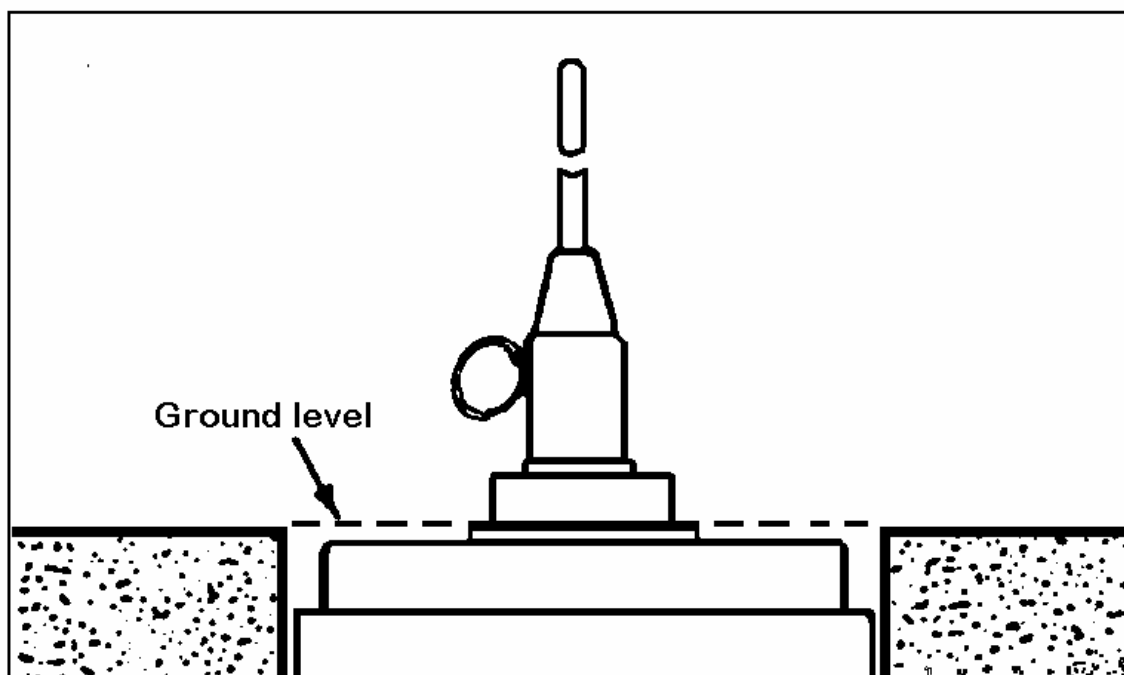

Figure 052-192-1117-4
- a. Dig a hole deep enough so that the top of the mine will be at ground level (Figure 052-192-1117-4).